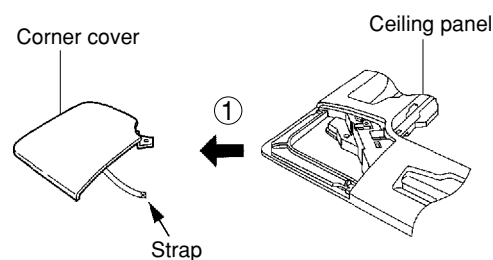

Fig. 9-15
- (2) Removing the corner cover
- a) Slide the corner cover to the direction shown by the arrow ① to remove the corner cover. (Fig. 9-15).